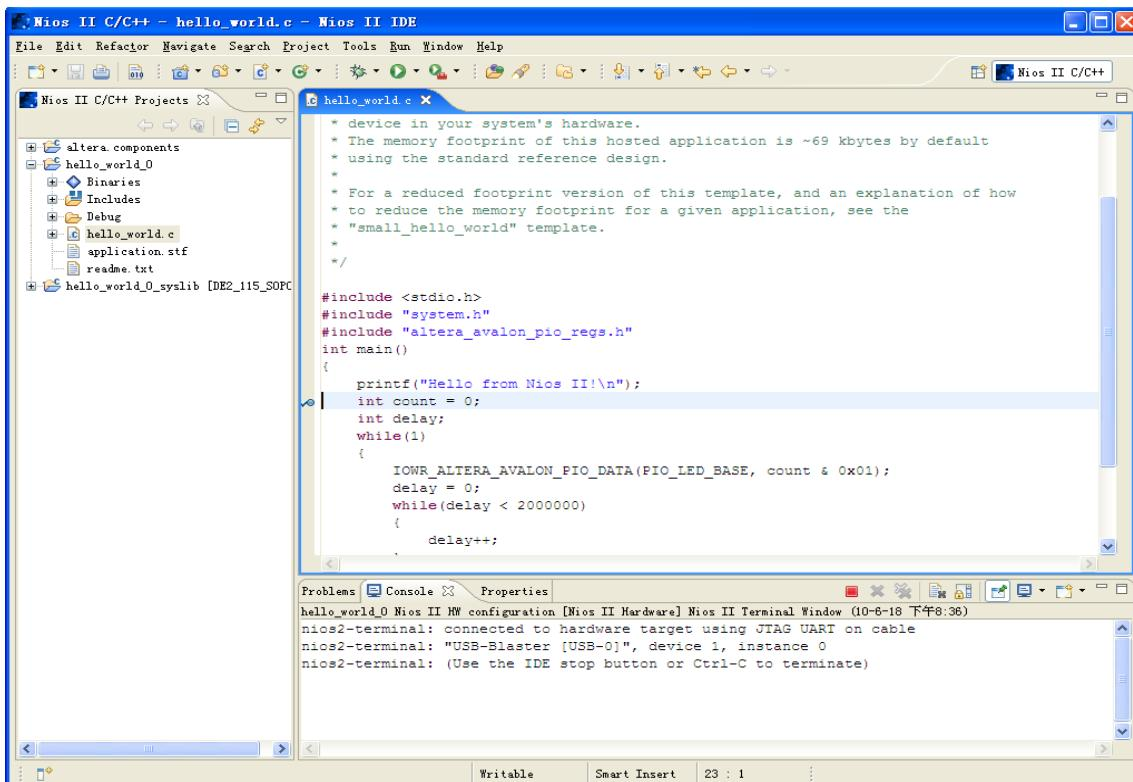

Figure 7-60 Set Breakpoint
1. In the **hello\_world.c** , double-click the front of the line where you would like to set breakpoint, as shown in **Figure 7-60**.